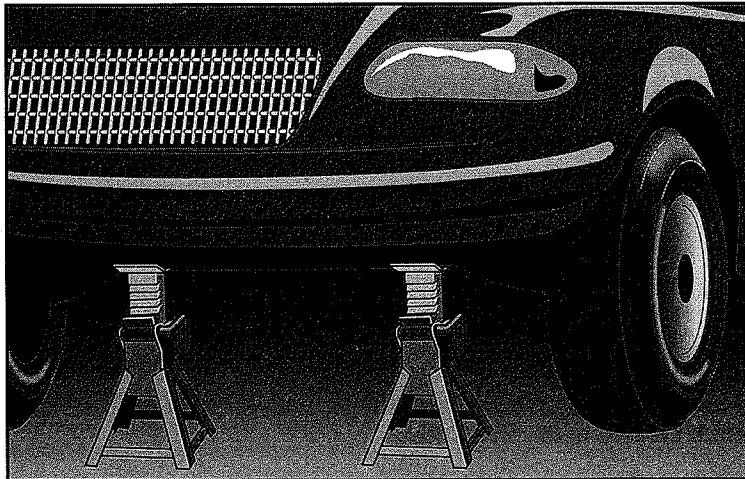

Figure 1-2:
4. If you have jack stands, place them under the car, near the place where the jack is touching the vehicle (see Figure 1-2). Raise the stands until they are high enough to just fit under, and lock them in place. Lower the jack until the car is resting on the jack stands. Then remove the jack.